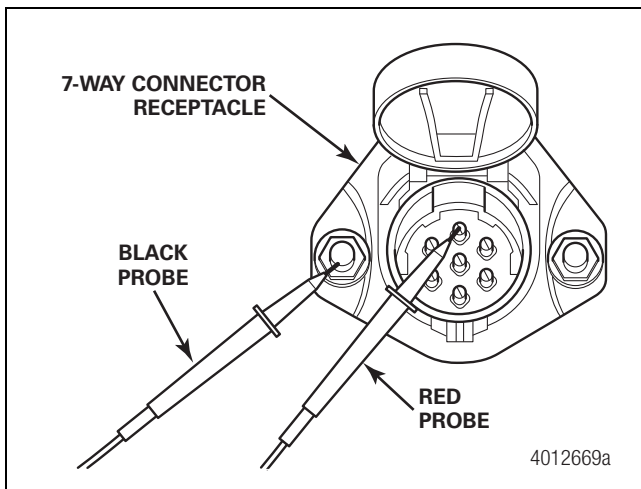

Figure 1
3. Using a digital volt ohmmeter (DVOM), measure the resistance from the J560 7-way ground pin (the large pin at the top of the receptacle) to a metal component on the trailer chassis. Figure 1.
11. Check the resistance from the top pin of the J560 7-way connector to both mounting studs to verify it is less than 10 ohms (<math><10 \Omega</math>). Figure 1.